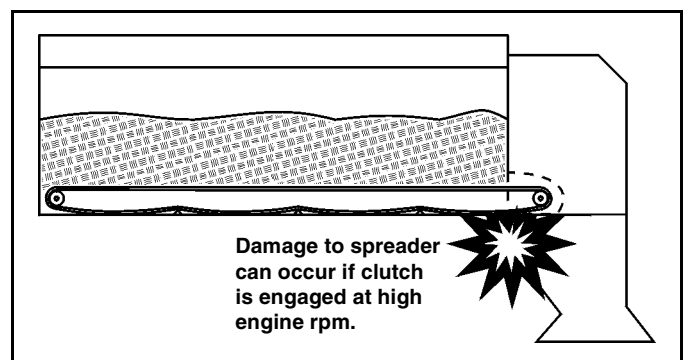

Figure 2-2
- Excessive engine speed, and sudden clutch engagement, may cause damage to spreader. (See Figure 2-2).